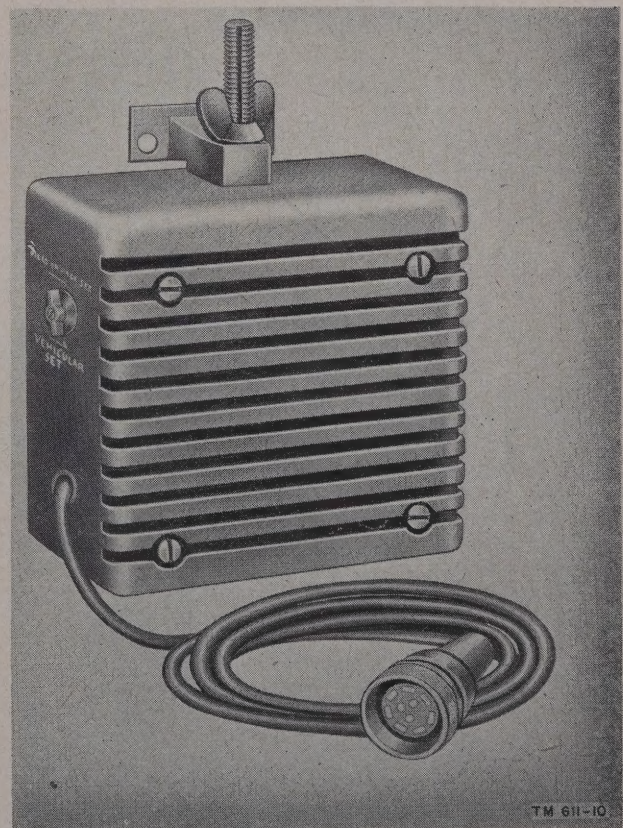

Figure 17. Dynamic Loudspeaker LS-166/U.
d. *Dynamic Loudspeaker LS-166/U*. Dynamic Loudspeaker LS-166/U (fig. 17) is a 4-inch permanent magnet dynamic loudspeaker, with a voice-coil impedance of 8 ohms, and a matching transformer to provide a 600-ohm input impedance. A 5-foot cord, terminating in a 10-pin audio plug, is provided for connecting the speaker to audio receptacles wired for loudspeaker or headset operation. A rotary switch on the side of the